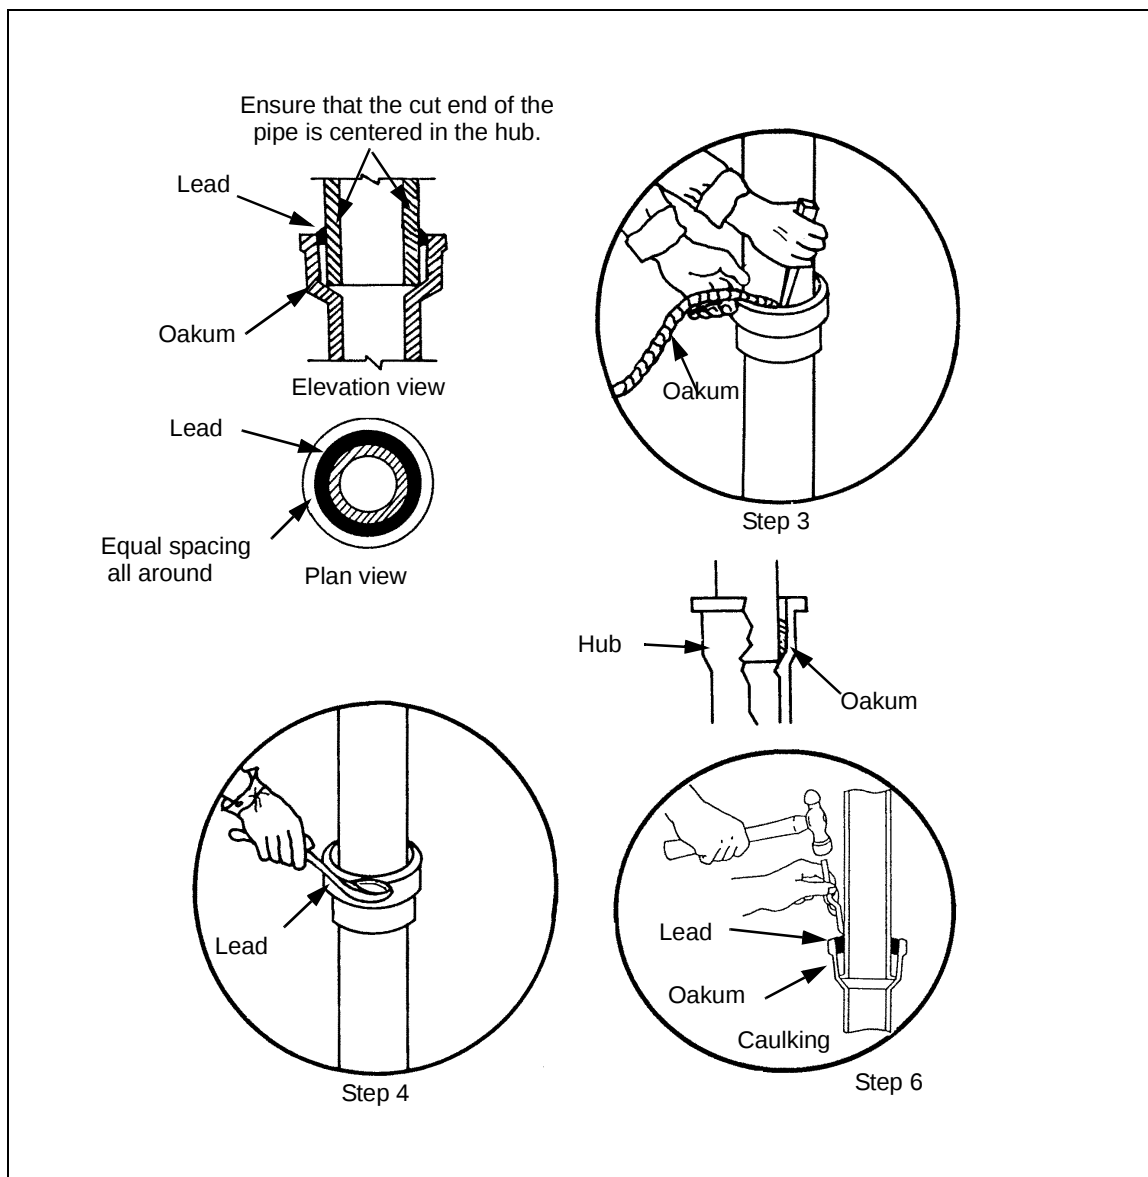

Figure 6-17. Vertical Lead Joint
6-42. **Vertical Lead Joint.** Use *Figure 6-17* and the following steps to make a joint.
Step 3. Pack strands of oakum into the hub completely around the pipe or fitting with a packing iron to within 1 inch of the hub's end (*Figure 6-17*).
Step 4. Pour hot molten lead carefully into the hub in one pour, using a plumber's ladle (*Figure 6-17*).
Step 6. Caulk the lead against the pipe with the inside caulking iron and then against the hub with the outside caulking iron, as shown in *Figure 6-17*, page 6-18. The joint is then complete and leakproof.